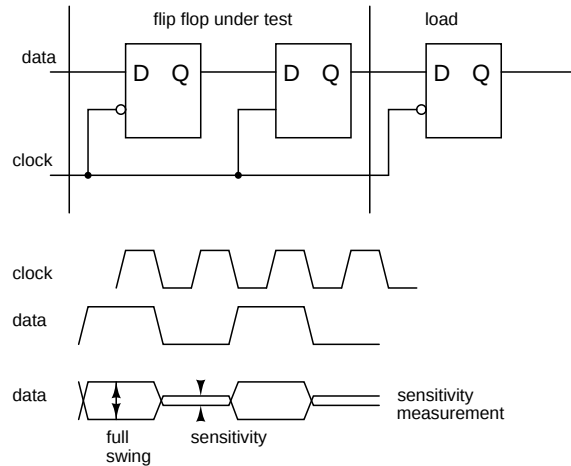

Figure 2: Problem 3
4. For this problem, use a clock with 50 ps rise/fall times. Use interconnect model from P1 on the data lines. Determine the sensitivity (with clock centered on the data), setup time, hold time, and clock to Q delay of a rising edge triggered flip flop (Fig. 2) for two cases: a) input alternating between $\pm$ sensitivity limit, b) input alternating between $\pm$ full swing. Assume that the latch/flip-flop is “working” if, at the end of the regeneration phase, the amplitude reaches 80% of the dc value. Timing of an event is defined by